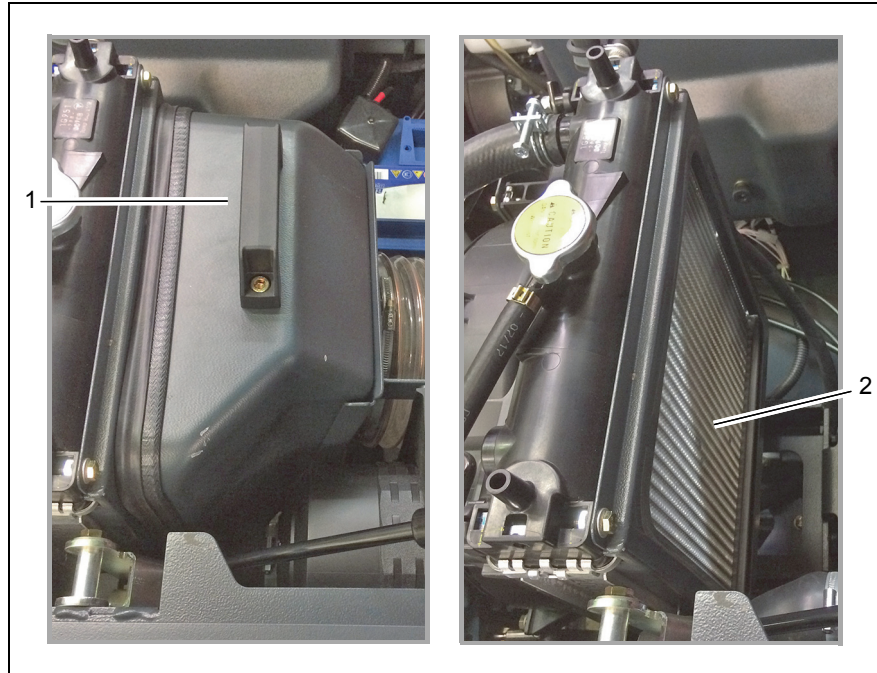

Fig.19
3. Open the seat hood and pull out the radiator cover (Fig. 19/1) from above.
4. Check the radiator fins (Fig. 19/2) for contamination and clean as required with compressed air or a water jet.